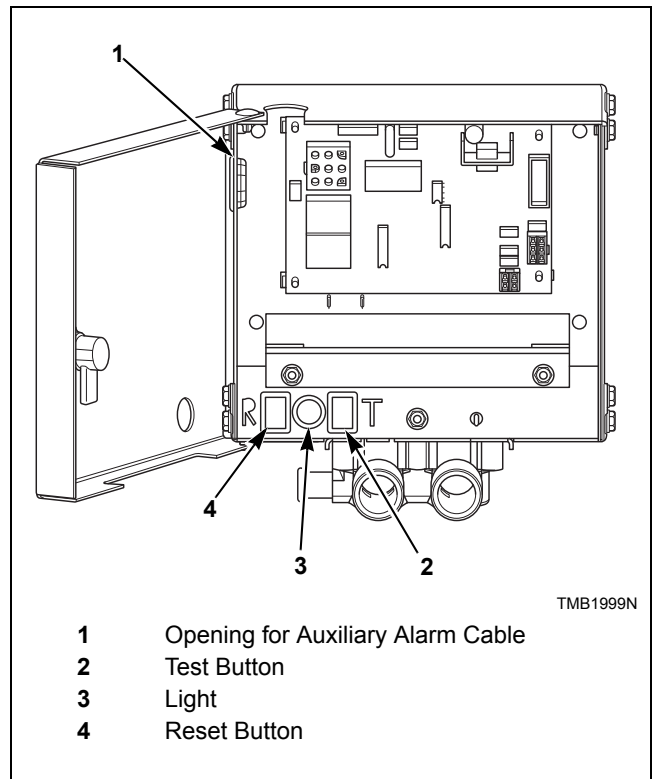
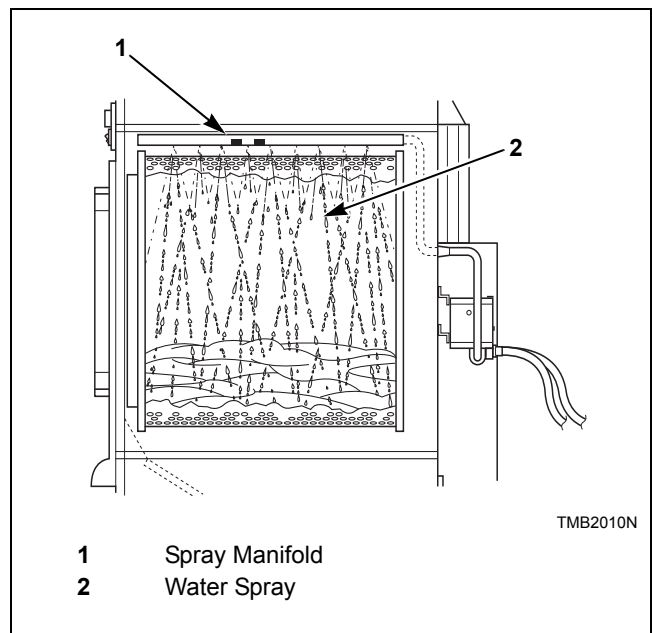

Figure 61
Figure 62
6. Press and hold the test button, verify the light is on, this should take approximately five seconds. Refer to *Figure 61*. After a one-second pause water should begin to spray into the cylinder.
7. After 15 seconds of water spray, press and hold the reset button until water spray is off and light is off. This should take approximately one second. Refer to *Figure 61* and *Figure 62*.